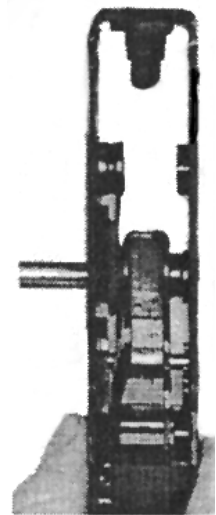

Figure 43
- Start the *trigger axle* in, stopping once the *axle* is holding the *trigger* in on the left side only (Fig. 43)